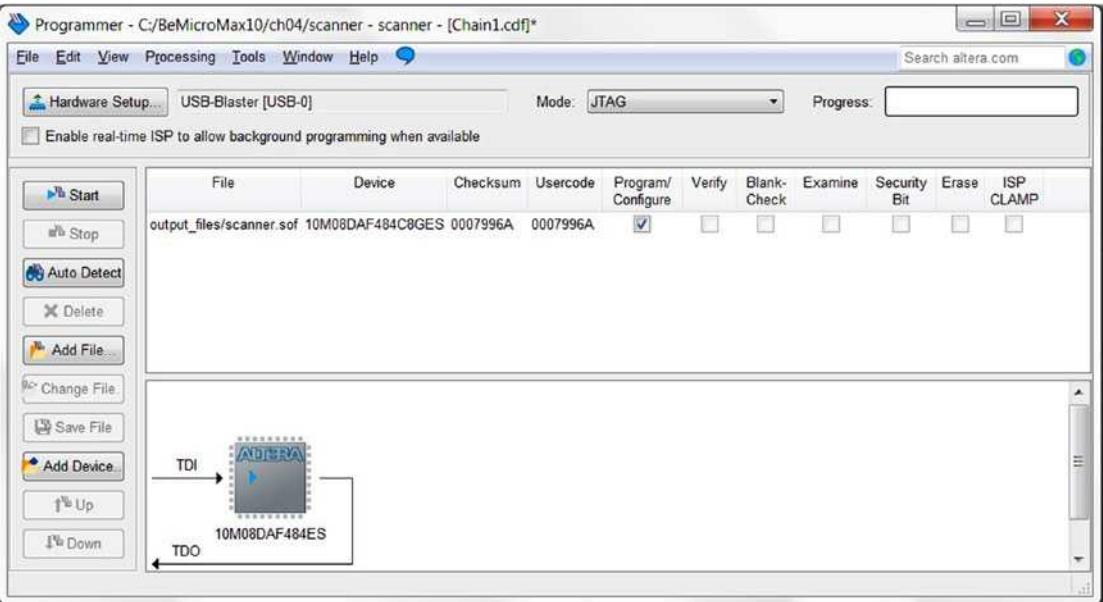

Figure 4-60. Programmer—Setting
- 5. All of the settings should look like Figure 4-60. When you're sure you want to proceed, click the **Start** button and wait while it writes the bitstream to the MAX10's SRAM. The LED (D11) on the board will glow green while this is in progress. Don't disconnect the board while this is in progress or you risk damaging the FPGA.